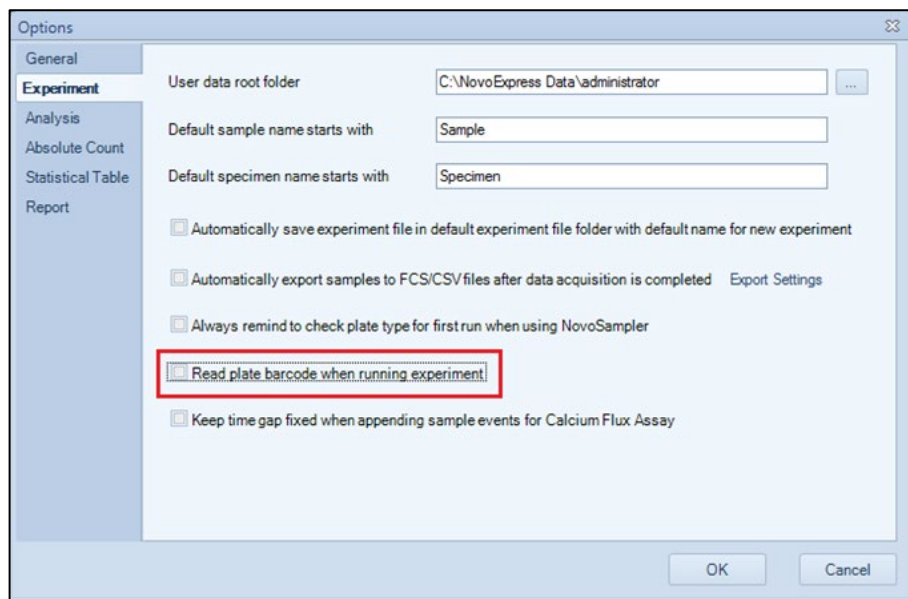
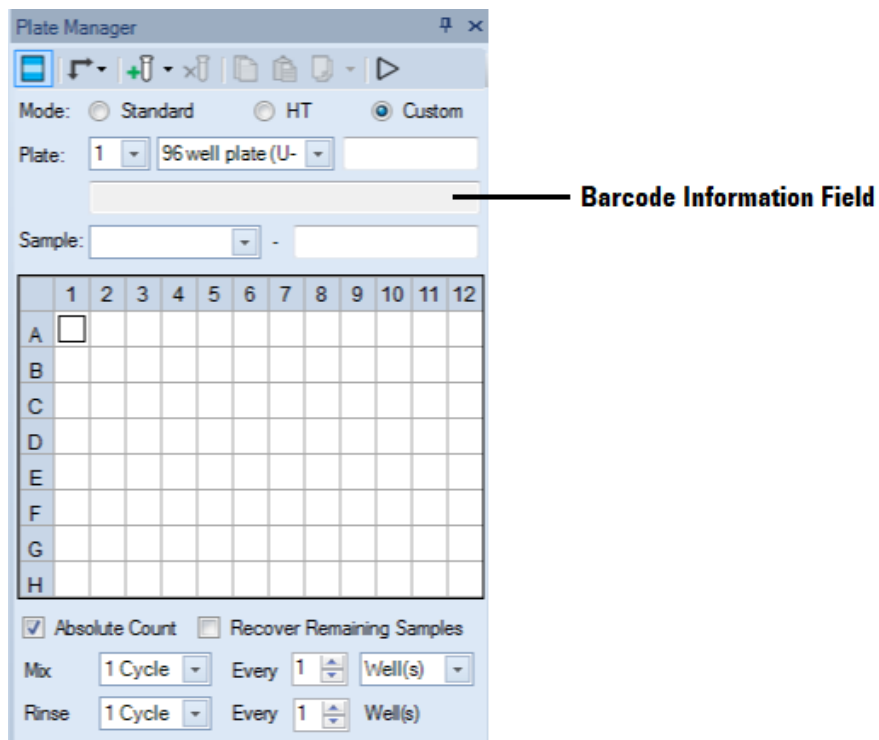

Figure 37. Enable Reading Barcode Function in Experiment Setting Window
Figure 38. Plate Manager Panel when Barcode Reading Function is Enabled
- 2 Launch NovoExpress software. Click **Setting > Option > Experiment** and select the check box for Read plate barcode when running experiment (Figure 37) to enable the barcode reading function. Click **OK**. The barcode information field will be displayed under the Plate field in the **Plate Manager** panel as shown in Figure 38.